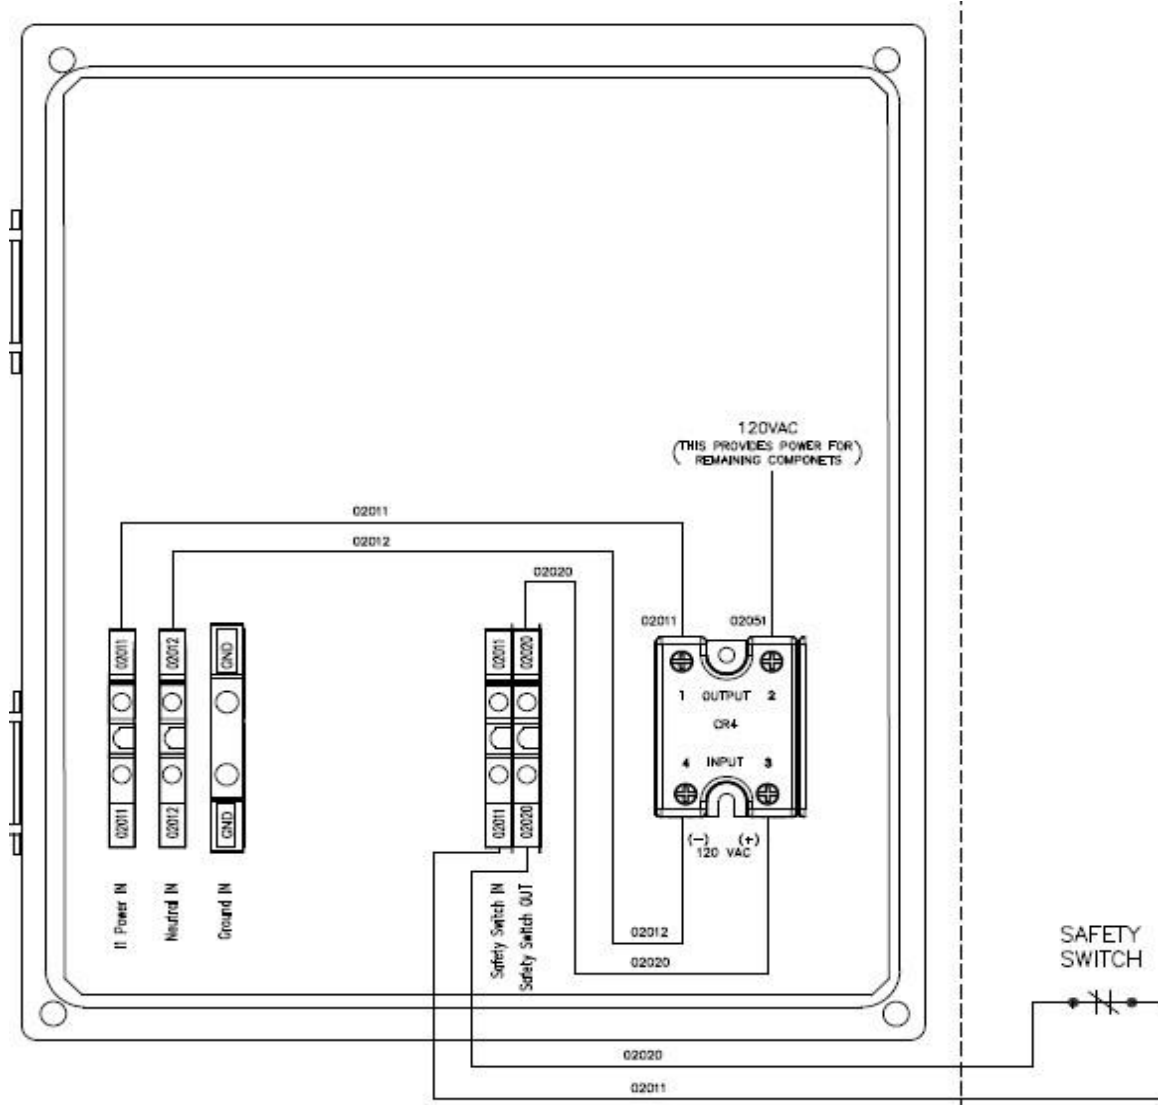

Figure 8-4: VST Control Panel 120 VAC Power Circuit Diagram
- **Figure 8-4:** Panel is powered from the ESO circuit directly, and wires are run from the Safety Switch IN and Safety Switch OUT terminals to a Safety Disconnect Switch near the GREEN MACHINE.